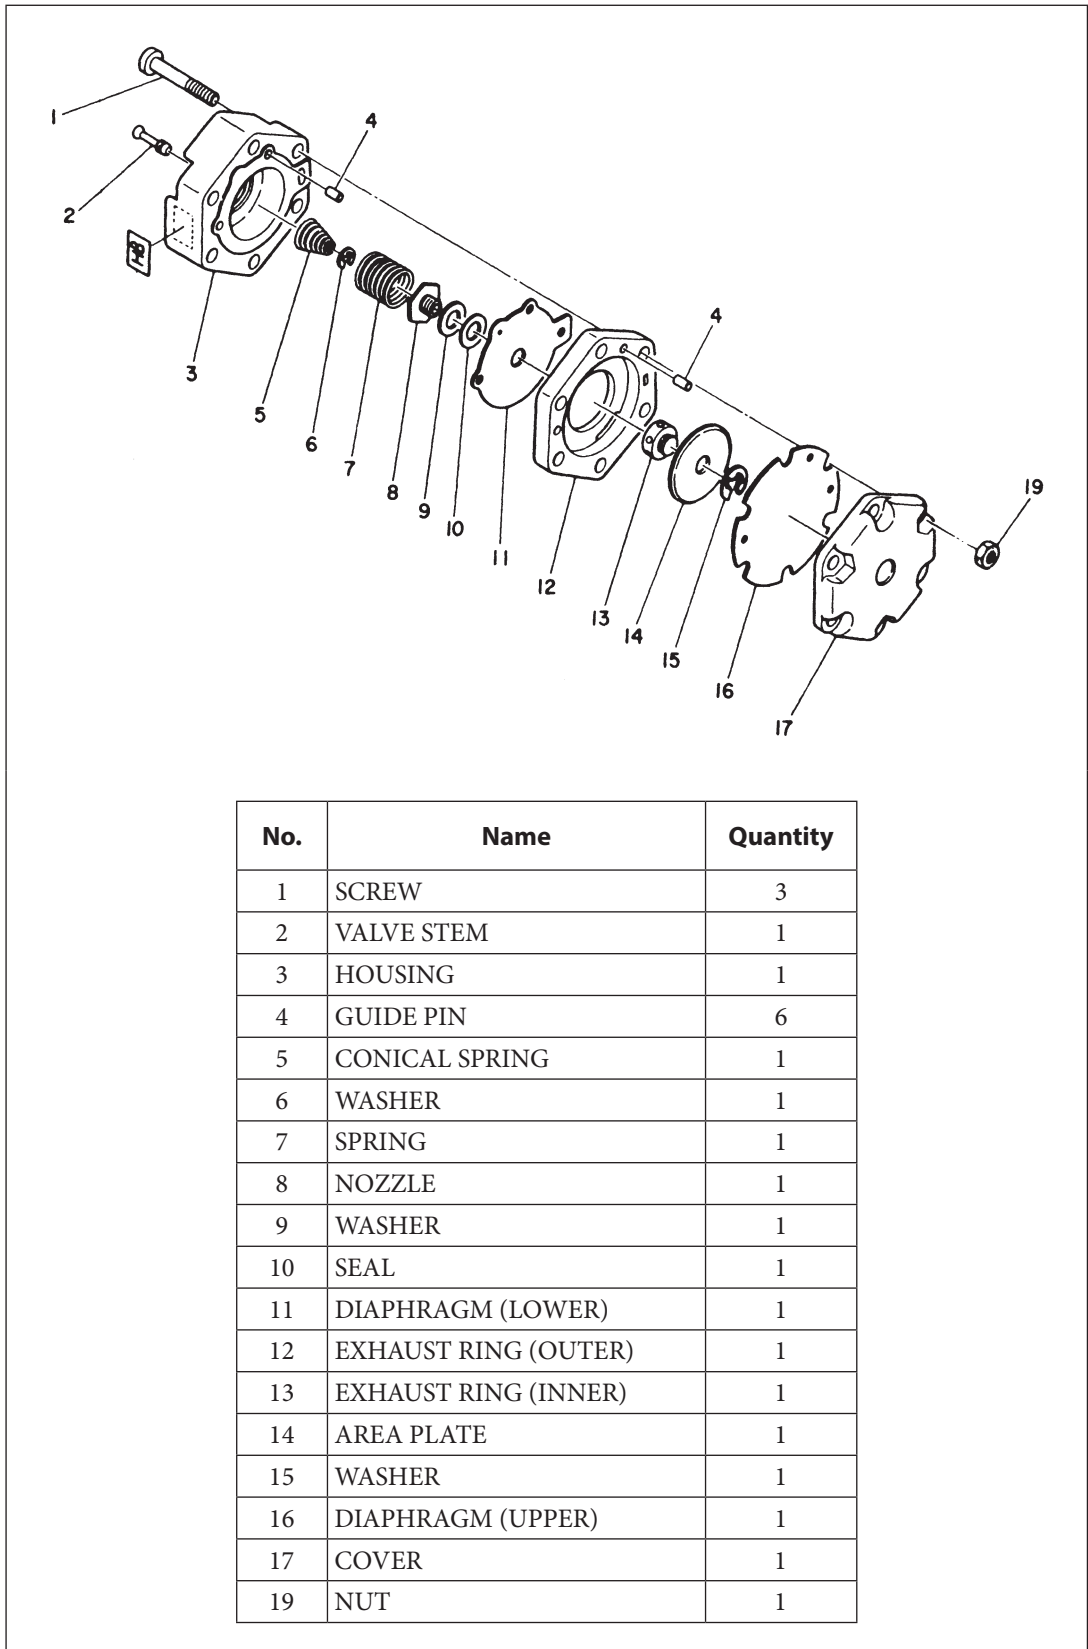

Fig. 4-1. Pilot relay assembly
Remove the pilot relay by removing the three screws shown in Fig. 4-1
- (a) Remove the three assembly screws (1) and nuts (19). (See Fig. 4-1)
- (b) Parts (3) to (17) will separate in order. It is not necessary to separate parts (2) to (6) unless they are to be replaced.
- (c) Clean metal parts with approved solvent such as petroleum naphtha or Chlorothene. Depress the valve stem (2) against the conical spring (5) to allow the solvent to penetrate through the seat which is hit by the port section of the valve stem.
- (d) Examine the inner exhaust ring (13) and value stem (2). If dirty, clean them wit a cloth. Do not use any solvent to clean them.
- (f) Replace diaphragms (16) and (11) if worn or damaged.
- (g) Reassemble the pilot relay by rejoining all parts in order with assembly screws (1), and nuts (19). Tighten the screws evenly.